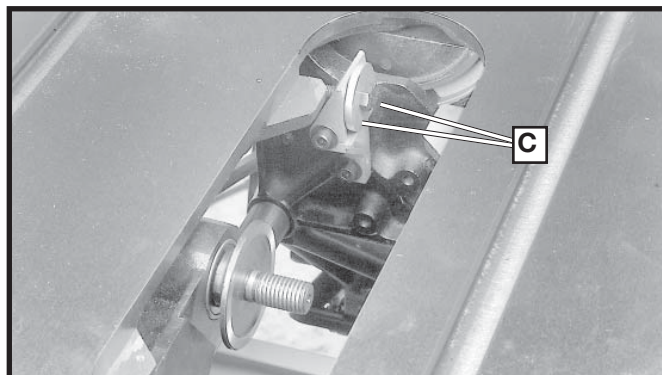

Fig. 44
3. Remove screw and large washer (C) Fig. 44 from the inside splitter mounting bracket.